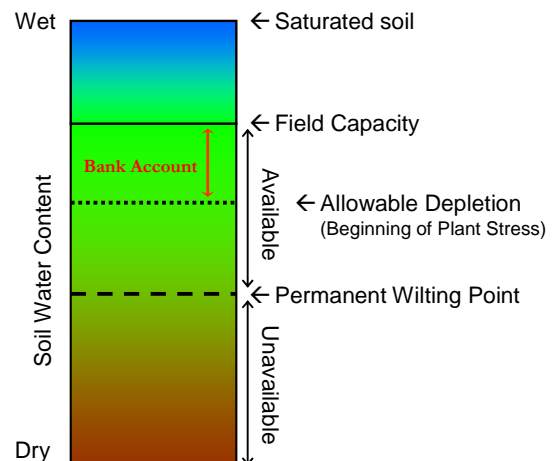

Figure 1. Soil water content from saturated to dry. Optimal soil moisture levels for plant growth are between field capacity and allowable depletion.
- **Available Water** is the amount of water held in the soil between field capacity and permanent wilting point. (Figure 1.)